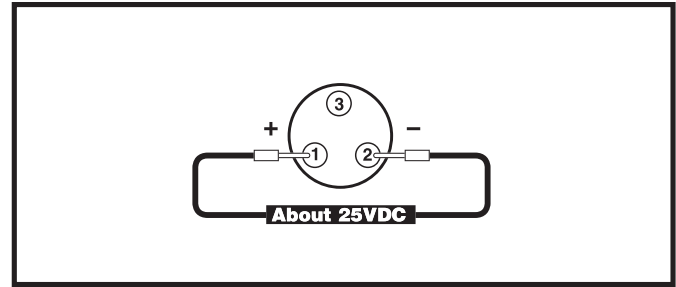
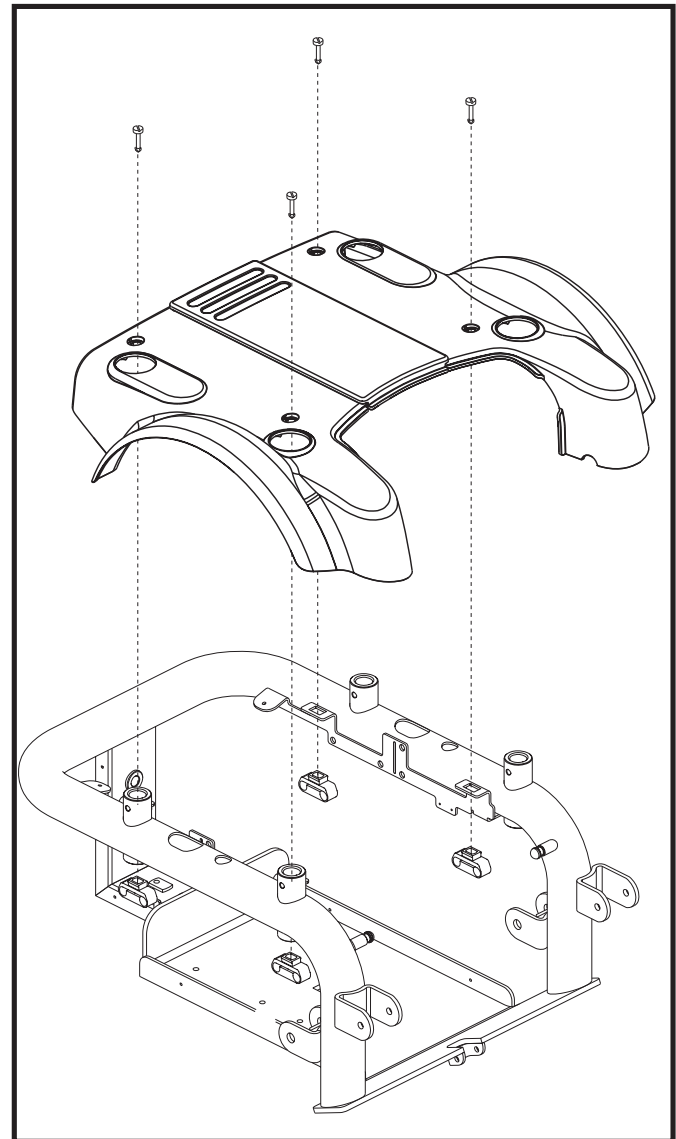

Figure 2. Connector 1a.
Figure 3. Jazzy 1121 Shroud Removal/Assembly
1. Measure voltage across pin 1 (B+) and pin 2 (B-) of the off-board charger socket (1a). See diagram 2 and figure 2.
- If your multimeter indicates about 25VDC (with correct polarity), then replace the Remote Plus joystick module (1) and retest the system.
3. Remove the shroud. See figure 3.